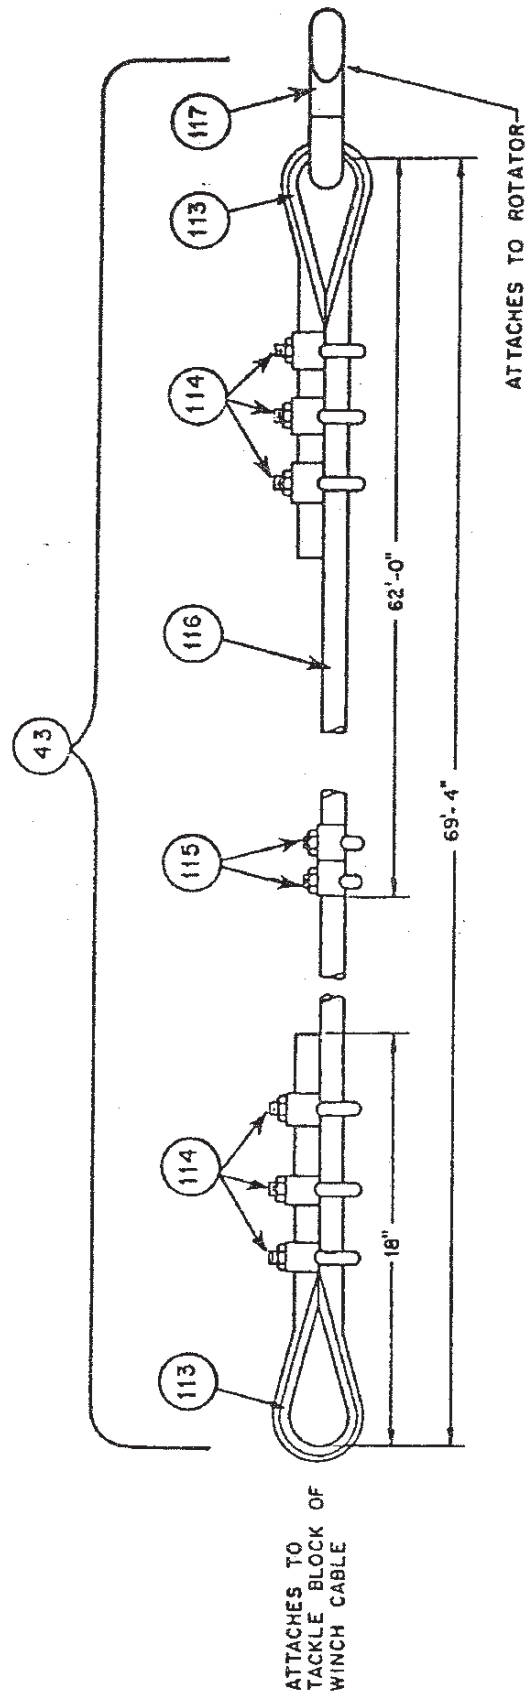

Figure 2-20
- f. One man removes the pulling cable (Figure 2-20) from the box, attaches the hook on the cable to rotator loop (Figure 2-21), routes the cable through the slot in the gin pole top plate, and then lays it over the base plate.